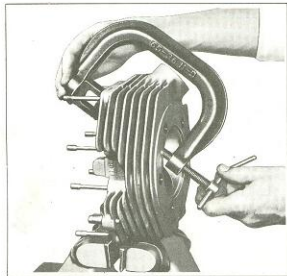

Figure 3-4. Compressing Valve Spring
Compress valve springs using Valve Spring Compressor, Part No. 96600-36, and remove valve keys (23) from ends of valve stems as shown in Figure 3-4. Mark keys to identify them with their respective valves. Remove valve spring collars (24 and 27), springs (25 and 26) and valves (28). It is customary to reassemble valves in same cylinder head from which they were removed; therefore, before removing, mark them in some manner to identify them with front and rear cylinder head.